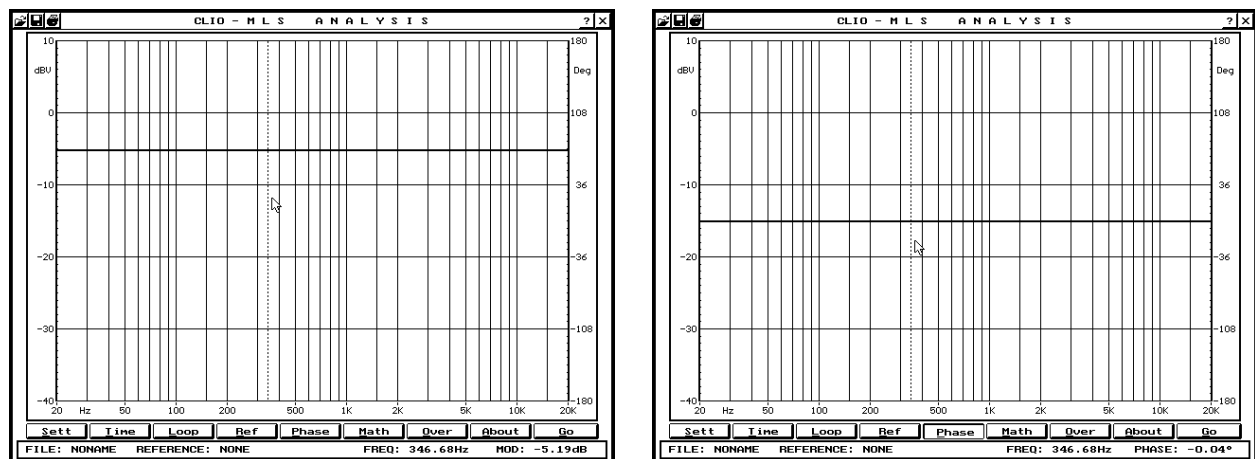

FIGURE 7.8 – MLS calibration check
B) Enter the MLS Analyze control panel; press “G” and execute a measurement; a flat line in both the amplitude measurement and the phase should be obtained, as shown in Fig. 7.8 (with a resolution in amplitude of 50 dB). If the line is not perfectly flat, those results which give a line that varies by no more than ± 1 pixel may be considered a correct calibration.